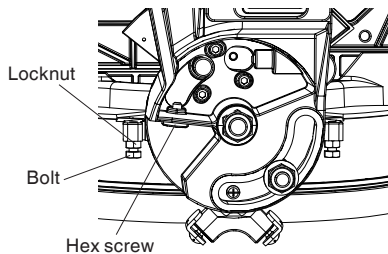

Fig. 17
- (2) Loosen the bevel lock handle and tilt the gear case completely to the right.
- (3) Using a combination square, check to see if the blade is 45° to the table.
- (4) To adjust, tilt the gear case to 0°, loosen the locknut, and turn the bolt in or out to increase or decrease the angle as shown in Fig. 17.
- (5) Tilt the cutting arm back to the right, and recheck alignment.
- (6) Repeat steps until the blade is 45° to the table. Once alignment is achieved, tighten locknut and bevel lock handle when alignment is achieved.